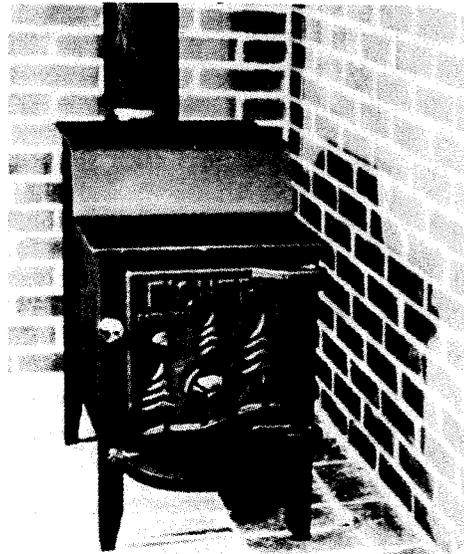

Fig. 59. Baby Bear step stove, by Fisher.
4. **Fisher Stove Works** (manufacturer), 135 Commercial St., Springfield, OR 97477. See comments for the Fisher freestanding fireplace/stoves. See also Fig. 59 and Table 6 for details of the "Bear" stoves.